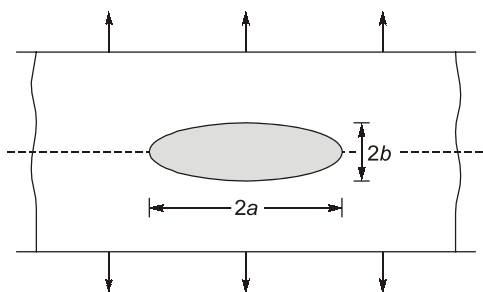

Fig. 1.15
**Q.1** In a semi-infinite plate shown in the figure 1.15. The theoretical stress concentration factor  $k_t$  for an elliptical hole of major axis  $2a$  and minor axis  $2b$  is given by